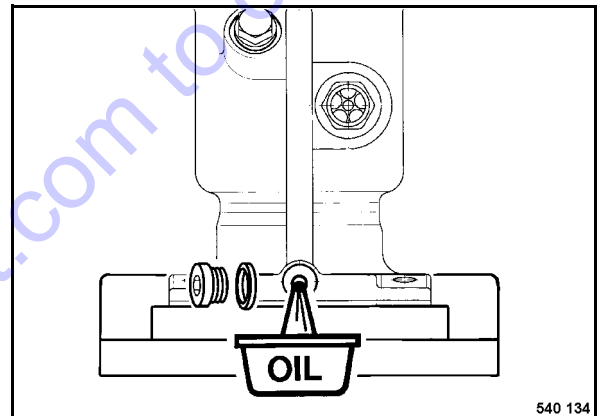

Fig. 61
- Clean and unscrew the oil drain plug (Fig. 61), let the old oil run out and catch it.